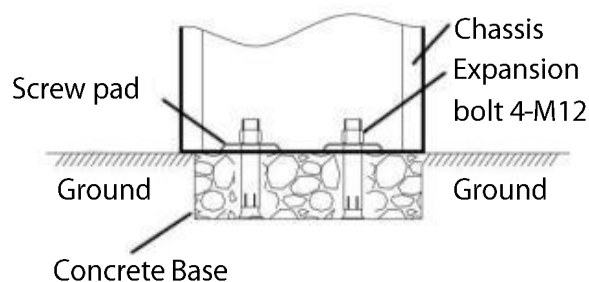

Fig. 2.3
- Install screw pads and use a spanner to tighten nuts, as shown in **Fig. 2.3**.